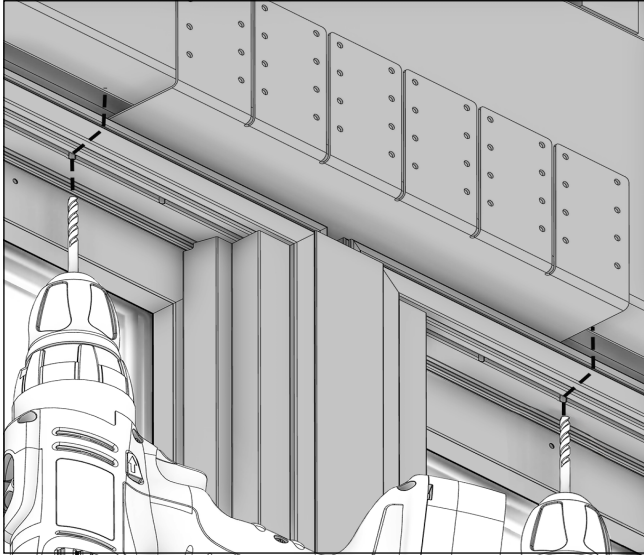

Figure 57 Casement
3. Casement product hole locations will align with the through jamb holes in the interior kerf. All holes regardless of unit type will align with the existing through jamb holes. Drill the marked locations, drill through the frame with a 3/16" drill bit. Once all holes are drilled, fasten the frame to the RO with the provided #8 x 3" screws using a T20 star bit. Additional shimming may be required. DO NOT OVERTIGHTEN. See Figure 57